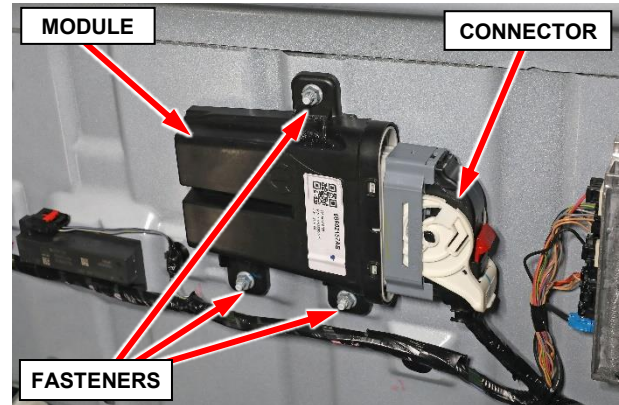

Figure 11 – Trailer Tow Module
5. Remove and **DISCARD** the three bolts that retain the three child seat tethers to the rear cab and remove tethers (Figure 11).
7. Disconnect the wire harness connector from the trailer tow module (Figure 11).
8. Remove the three fastener nuts from the trailer tow module (Figure 11).
9. Remove the trailer tow module from the vehicle (Figure 11).
12. Install the **NEW** trailer tow module to the vehicle and tighten the three fastener nuts securely (Figure 11).
13. Connect the wire harness connector to the trailer tow module (Figure 11).